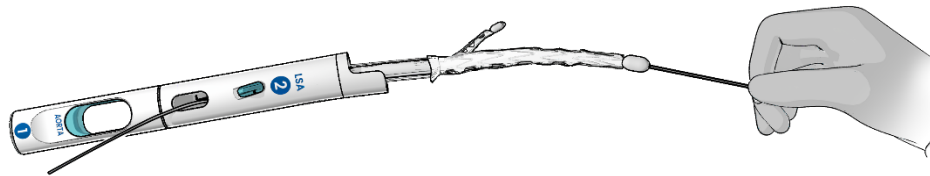

Figure 8. Insertion of aortic guidewire into the Arcevo™ LSA Aortic Tip after removal of Shaping Wire
11.2.7 If the delivery system is not pre-shaped, an aortic 0.035" (0.89 mm) guidewire is recommended for introducing the Arcevo™ LSA system into the thoracic aorta. Remove the Shaping Wire and insert the aortic guidewire by preloading the wire into the delivery system through the guidewire access. Alternatively, the guidewire can be inserted via femoral approach and fed through the Arcevo™ LSA delivery system through the Aortic Tip until it exits the handle (**Figure 8**).